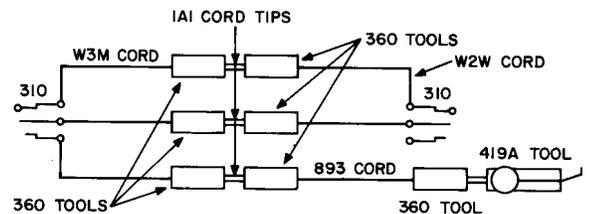

Fig. 2—
2.13 Test cord assembled locally shown as in Fig. 2, consisting of the following: One W3M cord, 6 feet long, equipped with a 310 plug and one each 360A, 360B, and 360C tools (3W4A cord); a W2W cord, 6 feet long, equipped with a 310 plug and 360B and 360C tools (2W17A cord); 893 cord, 6 feet long, with 360 tools at each end (1W13B cord); a 419A tool and three 141 cord tips. For connecting test set to older trunk finders whose test jack is located in a jack panel.